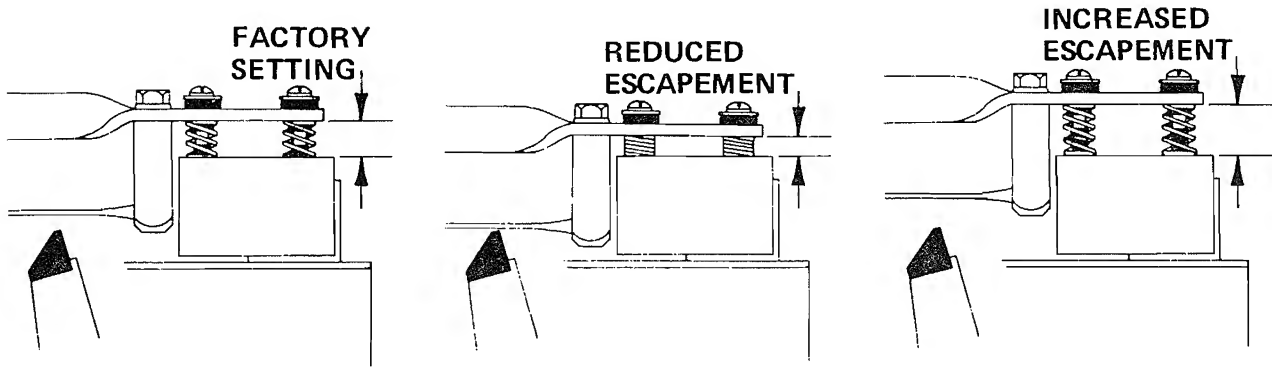

Figure 4-4. Adjustment Location 1
- a. Each of the Tone Bar Assemblies is separated from the Tone Bar Rail by two adjustable coil Springs. By means of these, the height of each Tone Bar Assembly can be raised to 1/2" (12.700mm) or lowered to 3/16" (4.762mm) — factory setting is 3/8" (9.525mm). From Figure 4-4 it can be observed that this adjustment increases or decreases the Escapement Distance.